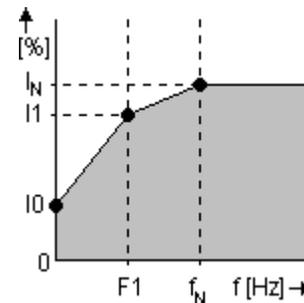

Fig. 6.14: I²t characteristic curve asynchronous motor
- the fact that the motor reaches its maximum permissible temperature at rated current in a steady state. Here, the rated current is specified by the frequency curve of I²t. See Fig. 6.14: I²t characteristic curve asynchronous motor